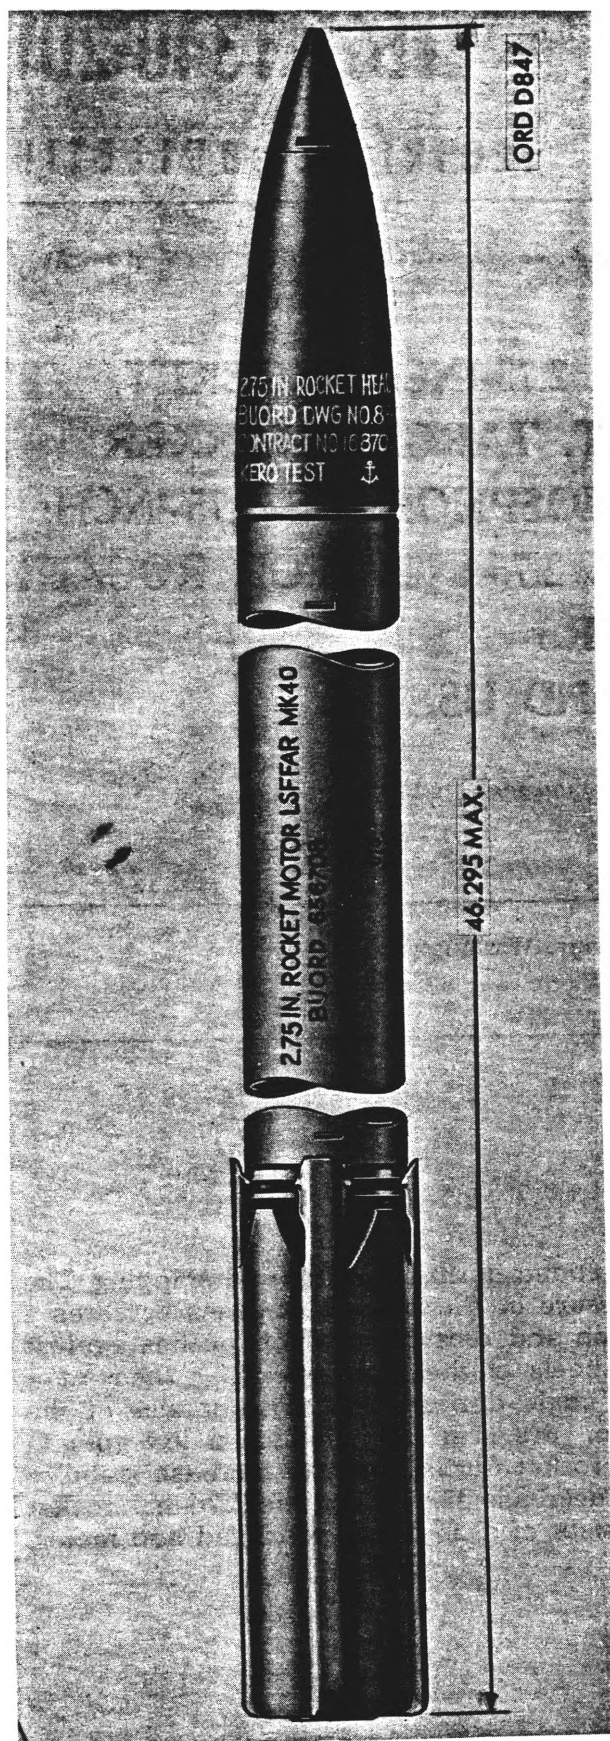

Figure 1. Rocket, high explosive, 2.75-inch: LSFFAR.
2. General. The 2.75-inch, low-spin, folding-fin aircraft (fig. 1) rocket is forward fired from a rocket launcher. Stabilization in flight is accomplished by four pivoted fins. The fins
a. High-explosive (HE) (fig. 1 and 2), which contains a high explosive charge is intended for blast, fragmentation or demolition effect.
(1) *High-explosive warhead Mk 2 and Mods.* This high-explosive warhead (fig. 1) consists of a steel casing containing a 1.40-pound HBX-1 explosive charge. The warhead is internally threaded at the nose to receive the fuze and externally threaded at the base to engage the motor. A threaded, cup-shaped cavity liner is screwed in the nose.